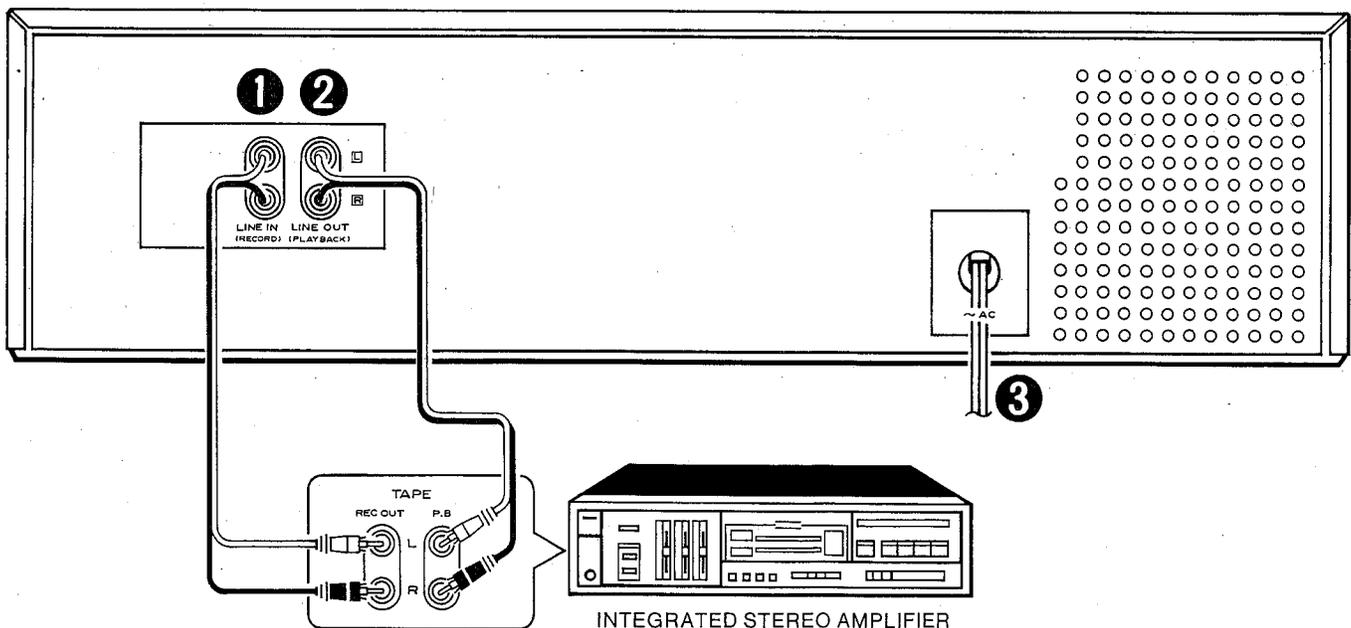

Fig. 1
- Be sure to make the correct connections, paying attention to the L (left channel) and R (right channel), and LINE OUT and LINE IN marks. Plug in the cables securely. Loose connections will result in unsatisfactory sound reproduction or cause noise problems. Refer to Fig. 1 below.